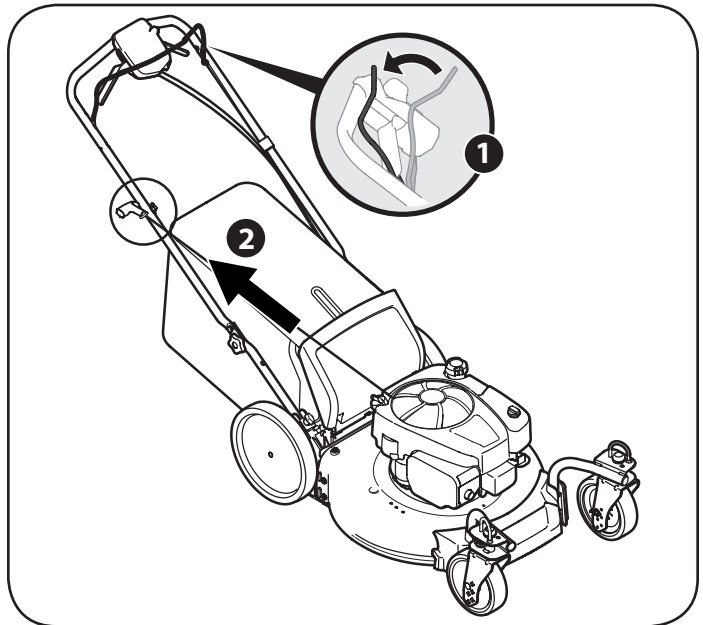

Figure 14
2. While holding these two handles together firmly, grasp the recoil starter handle and pull rope out with a rapid, continuous, full arm stroke. See Figure 14. Keeping a firm grip on the starter handle, let the rope rewind slowly. Repeat until engine cranks. Let the rope rewind each time slowly.
3. Turn the fuel valve to the OFF position. Refer to Figure 14 inset in the Operation section.